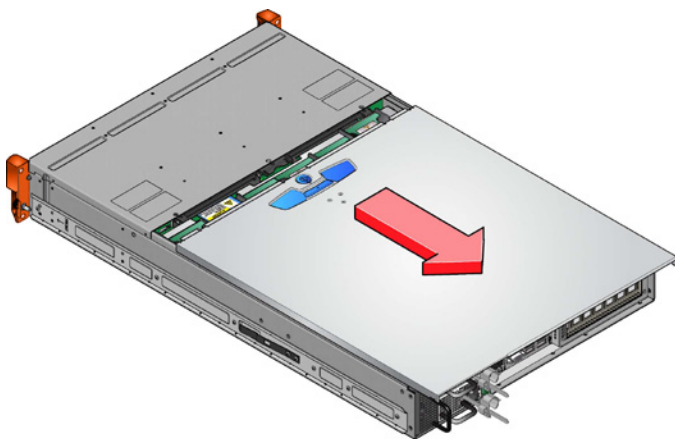

Fig. 35 - Removing the Enclosure Cover
1. To access the ten cooling fans, release the enclosure top cover by turning the lock mechanism to the “unlocked” position and slide the cover back until it stops (see Fig. 35).
1. To access the motherboard battery, release the enclosure top cover by turning the lock mechanism to the “unlocked” position and slide the cover back until it stops (see Fig. 35).
1. To access a PCI card, release the enclosure top cover by turning the lock mechanism to the “unlocked” position and slide the cover back until it stops (see Fig. 35).